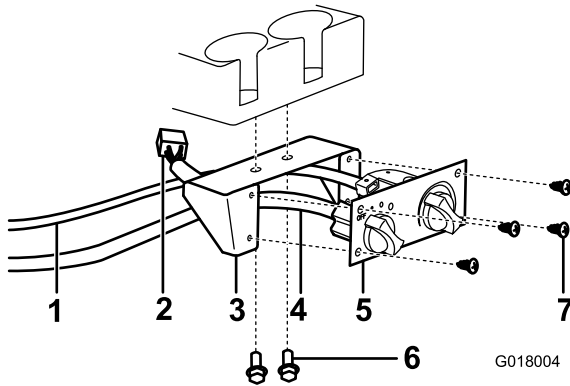

Figure 17
- Attach the heater control mount to the dash under the cup holders with 2 flange head screws and nuts (Figure 17).
- Connect the heater control cable and black wire harness connector to the heater control and the white wire harness connector to the heater (Figure 17).
- Attach the heater control to the heater control mount using 4 sheet metal screws (Figure 17).